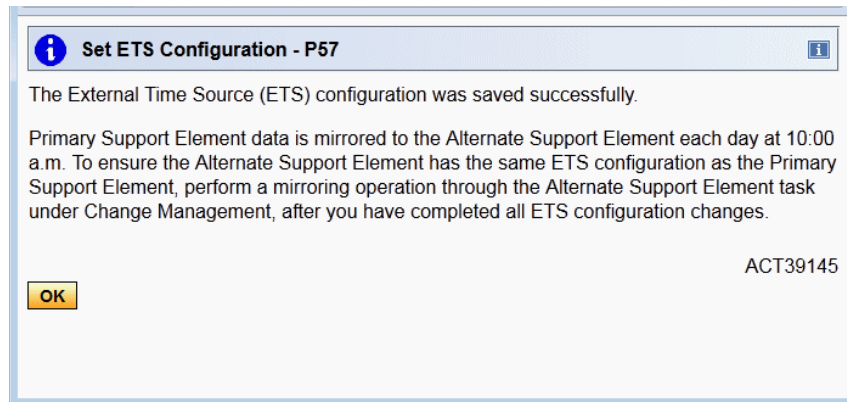

Figure 1-49 Message ACT39145 - ETS configuration saved successfully
11. When you click **Apply**, the NTP server configuration is saved on the Support Element, and message ACT39145 displays (Figure 1-49 on page 31). The configuration takes effect immediately if only one NTP server is configured.